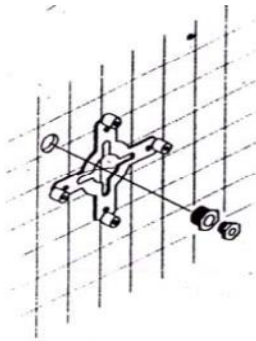

FIG 2
2. 20NB i.e.25mm conduit pipe should be used from the junction box outside the pool to the point where the light is to be installed. At the point of entry into the pool, ¾ BSPF threaded end connector is required. Fix the packing gland provided with the light into this end connector, as shown in fig.2.